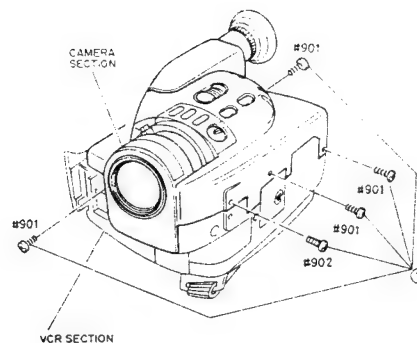

Fig. 2-22
- 1) Remove five (5) screws holding the camera section and VTR section. (See Fig. 2-22)